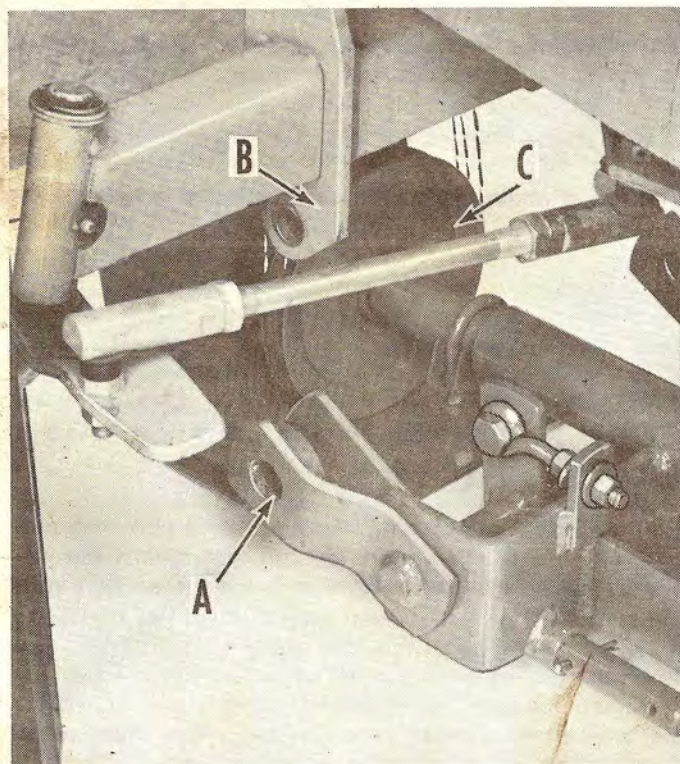

Fig. 6
Remove locating pins from front hanger straps (A). Fig. 6 : Note that left pin has washer and spring attached. Raise left side of main frame until tractor hanger bracket (B) is between hanger straps (A). Insert locating pin, add washer to pin and secure with hair cotter pin. Attach main frame to right side of axle in same manner using foot pedal for leverage in lifting. Place small gearbox belt around jackshaft pulley (C).